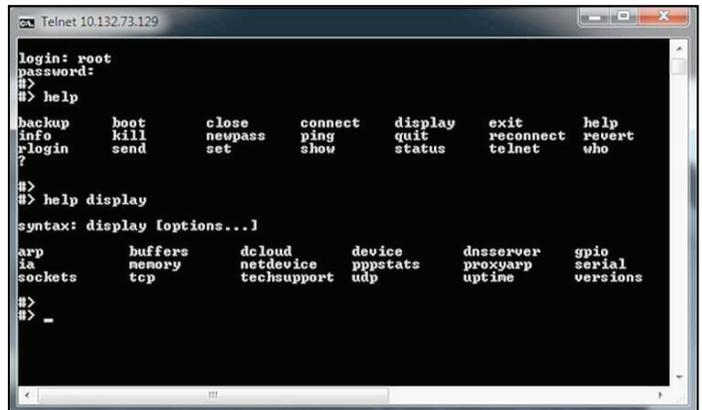

Figure 78: Telnet help command
- A list of other available commands and their usage can be displayed by entering help or? at the #> prompt (see *Figure 78* below).